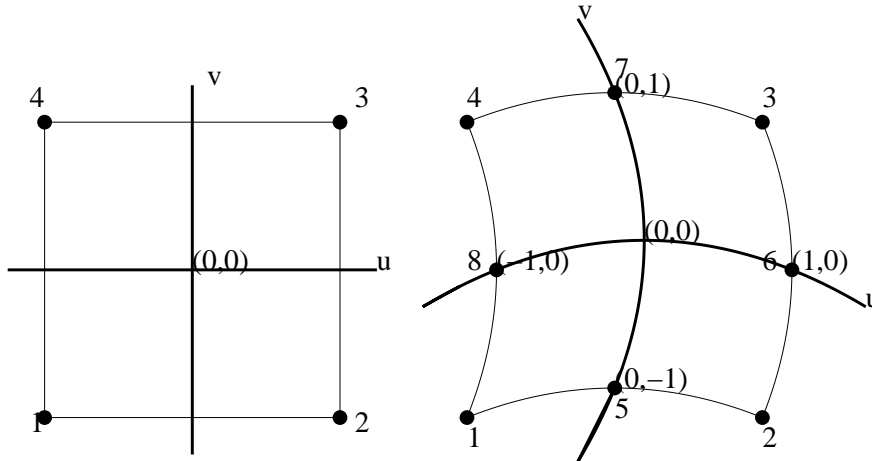

Figure I.2: The 4 (404), and 8 (408) node quadrilateral elements.
- bilinear (404) and quadratic (408,409) quadrilaterals (4,8, and 9 nodal points, Figure I.2),